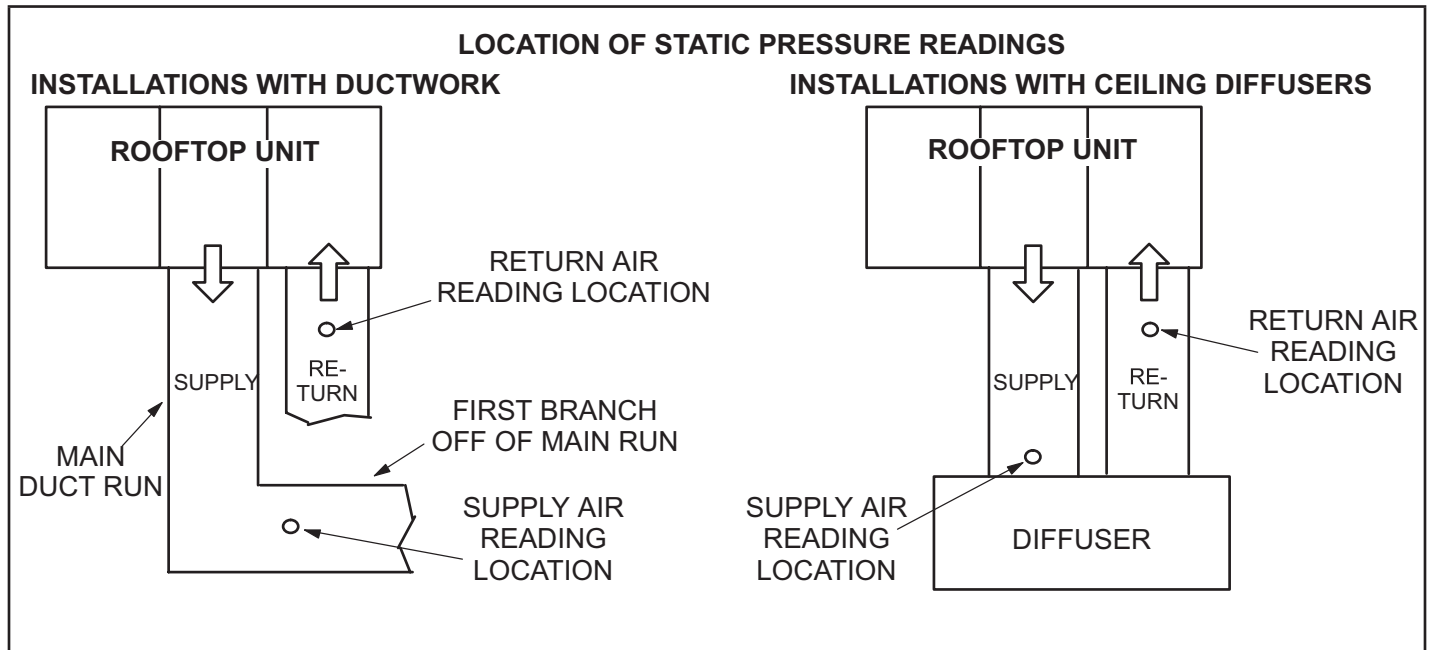

FIGURE 14
- 2 - With all access panels in place, measure static pressure external to unit (from supply to return). Blower performance data is based on static pressure readings taken in locations shown in FIGURE 14.